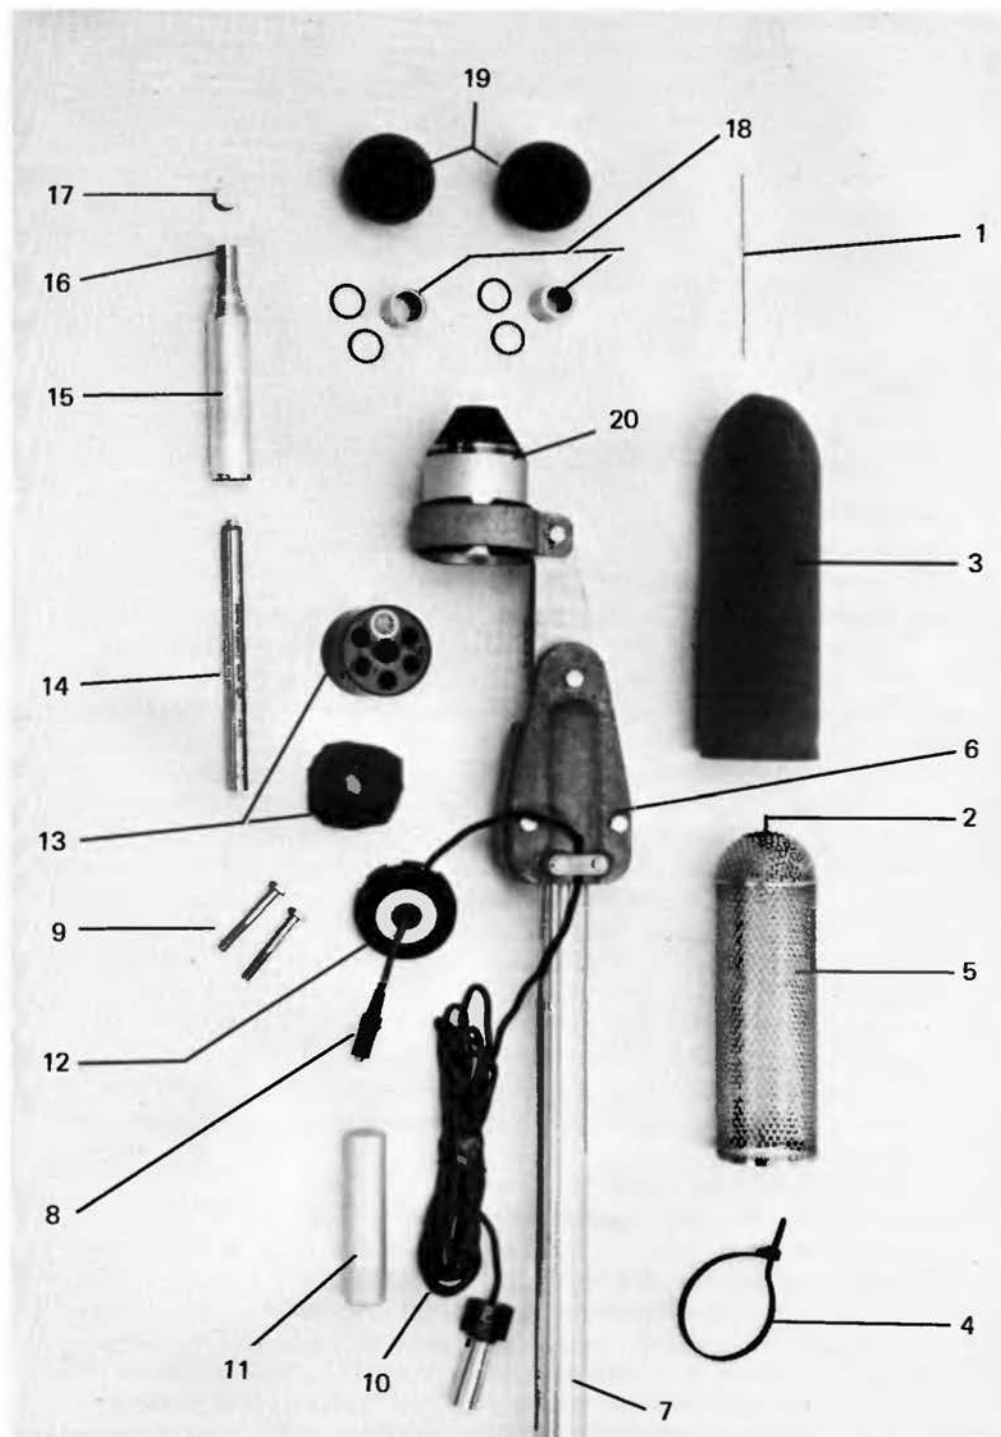

Figure 8-3. System Components.
Each operating 1945-9730 system consists of two functional units, the microphone/preamplifier assembly (See Figure 8-2) with its weatherproof housing and the mast (See Figure 8-3) with mounting hardware. All components are listed in Table 8-1. The microphone is not supplied but may be selected from those listed in Table 8-2.
Figure 8-1 illustrates the mast, with mounting hardware in position to hold the microphone assembly atop the supporting mast. Two cap screws (See Figure 8-3) are used to secure the assembly to the mast (supplied). Two longer cap screws are supplied for use with a 2-in. (50 mm) mast (not supplied).
All items are illustrated in Figure 8-3. The numbers refer to the identifiers in the figure.
- 14 Preamplifier — Connects to cable (10) and indirectly to microphone (17), described in Section 4
- a. Identify all components of the system before beginning the assembly procedure. Arrange parts in somewhat the same order as that shown in Figure 8-3. Refer also to Figures 8-1 and 8-2. The numbers in parentheses refer to the identifiers in Figure 8-3.
- b. Select the output cable (10). Insert the smaller cable connector through the seal nut assembly (12), the desiccant cartridge and insulating pad (13). Attach connector (8) to preamplifier (14); observe positioning key on connector and preamplifier. On some models the insulating pad is attached to the housing assembly.
- d. Hold housing assembly (20) in one hand and insert the preamplifier (14) into the large end of the housing.
- e. Turn the microphone extender upside down to let the center pin drop down. Push the preamplifier (14) forward and thread into microphone extender (15). Thread other end of extender into housing assembly (20). The center pin should protrude about 1/8-in. (3 mm) from the extender.
- f. Fit insulating pad (if not attached) and desiccant cartridge (13) into the housing assembly (20) and secure with the threaded seal-nut assembly (12).
- g. At the base of the housing (20) pull the cable gently to make a good seal.
- h. Thread the protective cap (17) or a 1/2-in. microphone (16) to the connector on the microphone extender (15). The 1/2-in. (12.70 mm) microphone does not require an adaptor.
- i. If a 1-in. (25.4 mm) microphone is to be used, install the appropriate adaptor (18) with O-rings before installing microphone. (Refer to para. 8.8)
- j. Install proper size windscreen (19).
- k. Thread shield (5) to housing assembly (20). Pull on boot (3) and secure with boot clamp (4). Thread spike (1) into spike holder (2).